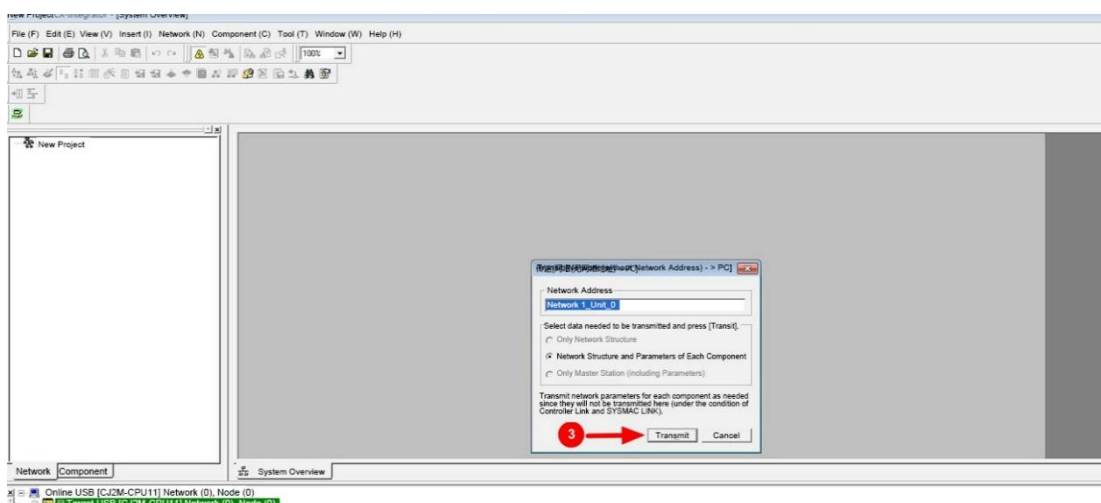

Figure 5-3-4 Automatic scanning
Automatic scanning, click "Online Work button", double-click DeviceNet[CJ1W-DRM21] network (-), node (1), unit (0), and set the network name, confirm transmission, as shown in Figure 5-3-4. Double-click ex-102 to see if OMron PLC scans to ex-1020 slave station and IO module.